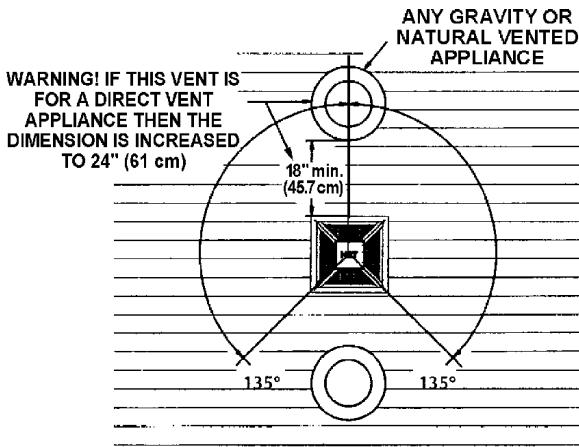

FIGURE 6.
- 18" minimum from other gravity or natural appliance outlet vents when directly above or 135° to either side of center line. See Figure 6.